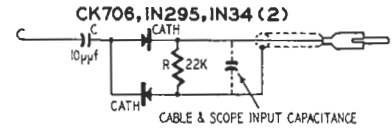

Fig. 6—The high-frequency probe.
- Fig. 6
The high-frequency detector probe (Fig. 6) is a voltage-doubler type, designed to give maximum output with adequate bandwidth. C is low in capacitance to reduce loading on the circuit under test. The value of R is a compromise between output amplitude and output bandwidth (modulated-signal frequency response). The output bandwidth with the component values shown in Fig. 6 is dc to approximately 100 kc, adequate to display the horizontal sync pulses at the correct amplitude. The crystals used (1N295, CK706 or 1N34) must be small enough to fit in the probe assembly; those used in the original model are about the size of a 1/2-watt resistor. Any crystals having similar size and electrical characteristics may be used. Somewhat larger types may be used if homemade probes are used. Electrical characteristics are not critical, those with a higher inverse voltage rating are preferable.